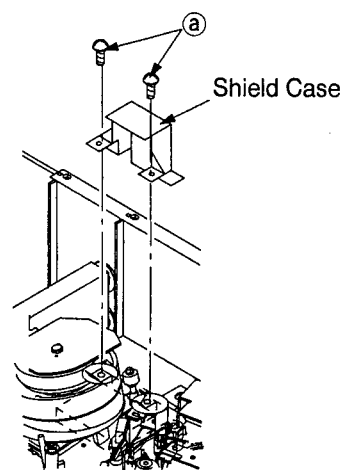

Fig. 5
4. Remove the two screws (a) shown in Fig. 5 and raise the Shield Cover to remove it.